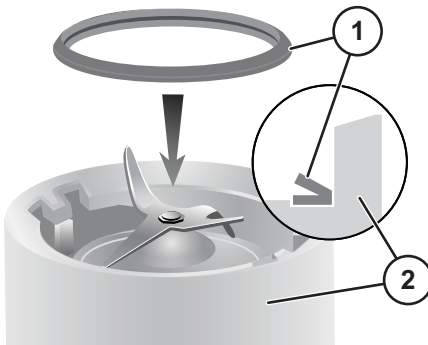

Figure 3
2. Put sealing ring (1), flat side down, around the blades and into the groove within the locking collar (2) (Fig. 3).